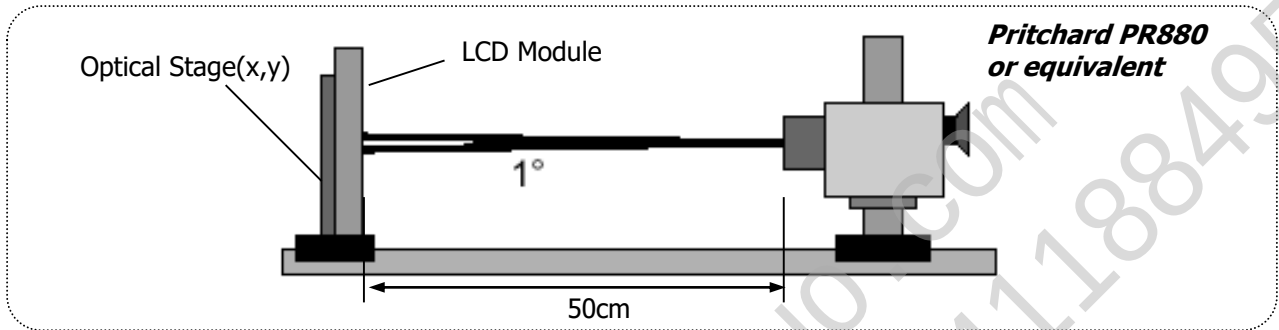

FIG.4-1 Optical Characteristic Measurement Equipment And Method
FIG.4-1 presents additional information concerning the measurement equipment and method.
- 2) **Surface Luminance(LWH)** is the luminance value at center 1 point(1) across the LCD surface 50cm from the surface with all pixels displaying white. For more information see FIG.4-1. **(By PR880)**